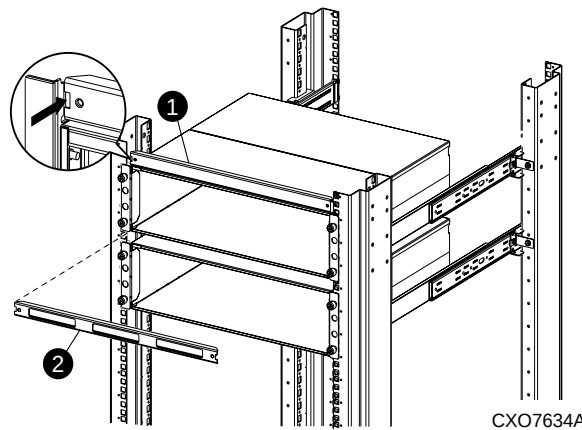

Figure 11: Filler panel replacement
For enclosures shipped with a solid filler panel ❶ installed (see Figure 11), facilitate cable routing to the enclosure-front by replacing the solid filler panel with the slotted filler panel ❷ shipped with the enclosure:
- Insert the straight-slot screwdriver in one of the slots (see Figure 11 inset) and pry the solid filler panel outward until that end becomes loose.